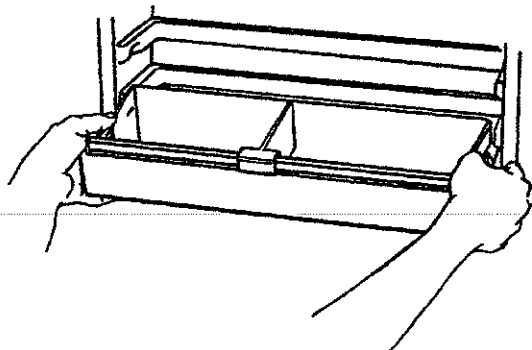

Figure 45
- b. With thumbs and forefingers of both hands, push and hold lock tabs toward center of bucket. See Figure 45.